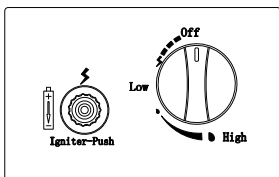

Figure 1
2. Control knob must be in the "OFF" position. (see figure 1)